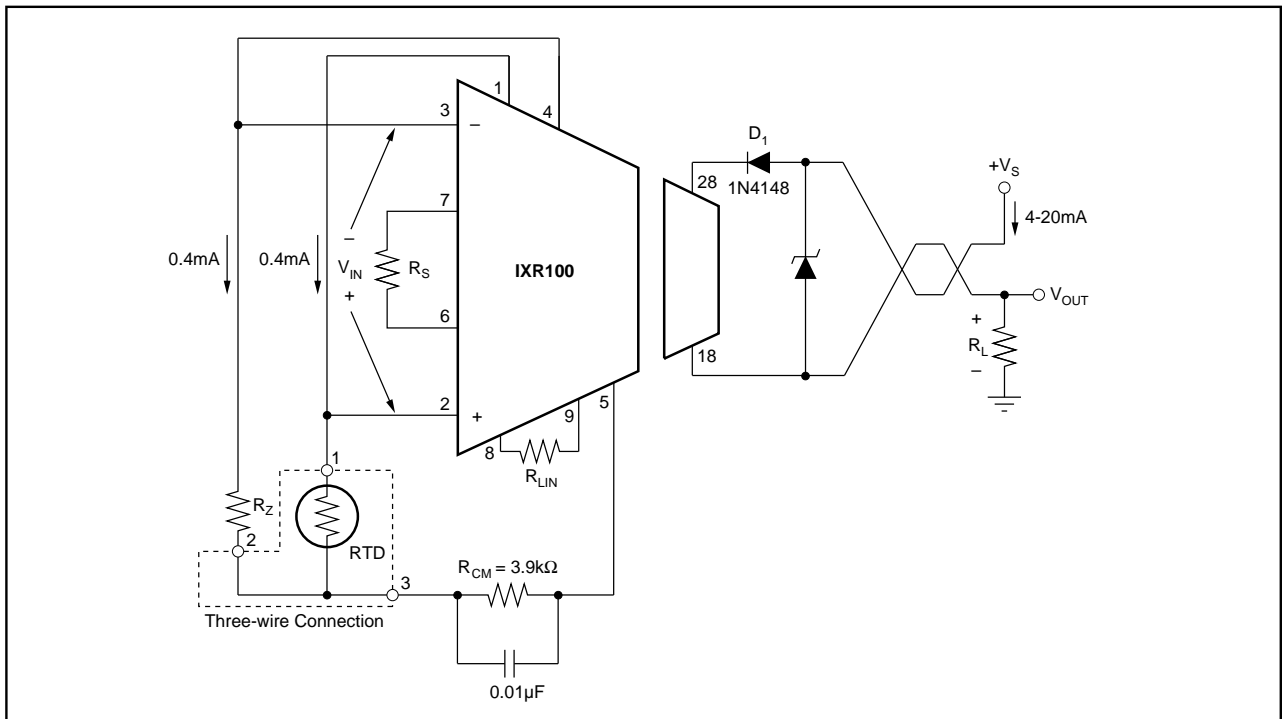

FIGURE 7. Basic 3-Wire RTD Connection for Increase-Increase Action.
- It is recommended that a reverse polarity protection diode be used. This will prevent damage to the IXR100 caused by a transient or long-term reverse bias between pins 18 and 28. This diode can be connected in either of the two positions shown in Figure 7, but each connection has its trade-off. The series-connected diode will add to the minimum voltage at which the IXR100 will operate but offers loop and device protection against both reverse connections and transients. The reverse-biased diode in parallel with the IXR100 preserves 11.6V minimum operation and offers device protection, but could allow excessive current flow in the receiving instrument if the field leads are accidentally reversed. This is particularly
In three-wire applications, shown in Figure 7, the RTD and R_Z lead arrangements set up a pseudo-Kelvin connection to the RTD. This occurs because the currents through the three wires are set up in opposing directions and cancel IR drops in the RTD leads. The current sources are both modulated
In some applications of the IXR100, the RTD will be located remotely. In these cases, it is possible for open circuits to develop. The IXR100 responds in the following manner to breaks in each lead. The following connections refer to the RTD connections shown in Figure 7.